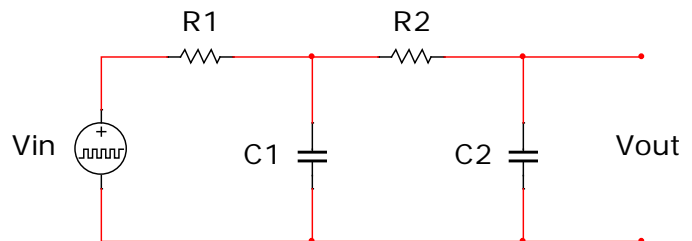

Figure 2. Second order RC circuit.
The second order circuit in figure 2 contains two energy storage components, i.e., two capacitors.
1. Create a Multisim or SPICE simulation of the second order circuit in figure 6 (same as figure 2) using the following values and capture an image of the schematic. (To copy a schematic from Multisim into Word, start in Multisim by selecting and copying all (Ctrl-A, Ctrl-C). Then in Word, "Paste Special" as a "Picture (Enhanced Metafile)".)